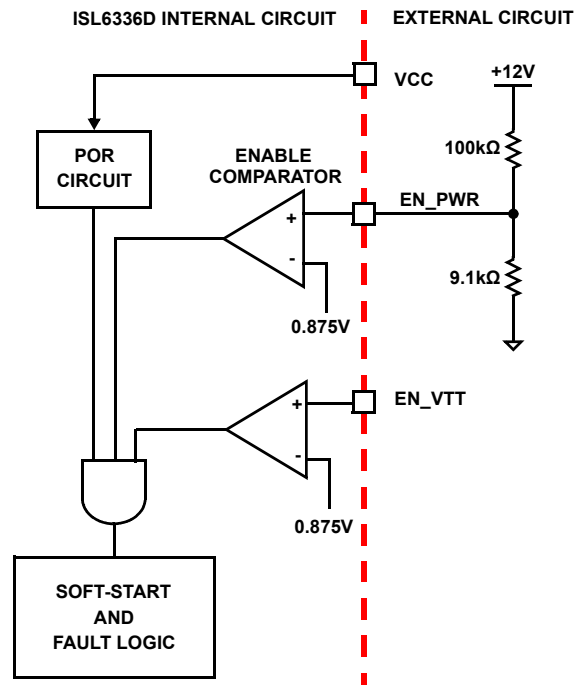

FIGURE 13. POWER SEQUENCING USING THRESHOLD SENSITIVE ENABLE (EN) FUNCTION
2. The ISL6336D features an enable input (EN_PWR) for power sequencing between the controller bias voltage and another voltage rail. The enable comparator holds the ISL6336D in shutdown until the voltage at EN_PWR rises above 0.875V. The enable comparator has about 130mV of hysteresis to prevent bounce. It is important that the driver reaches its POR level before the ISL6336D becomes enabled. The schematic in Figure 13 demonstrates sequencing the ISL6336D with the